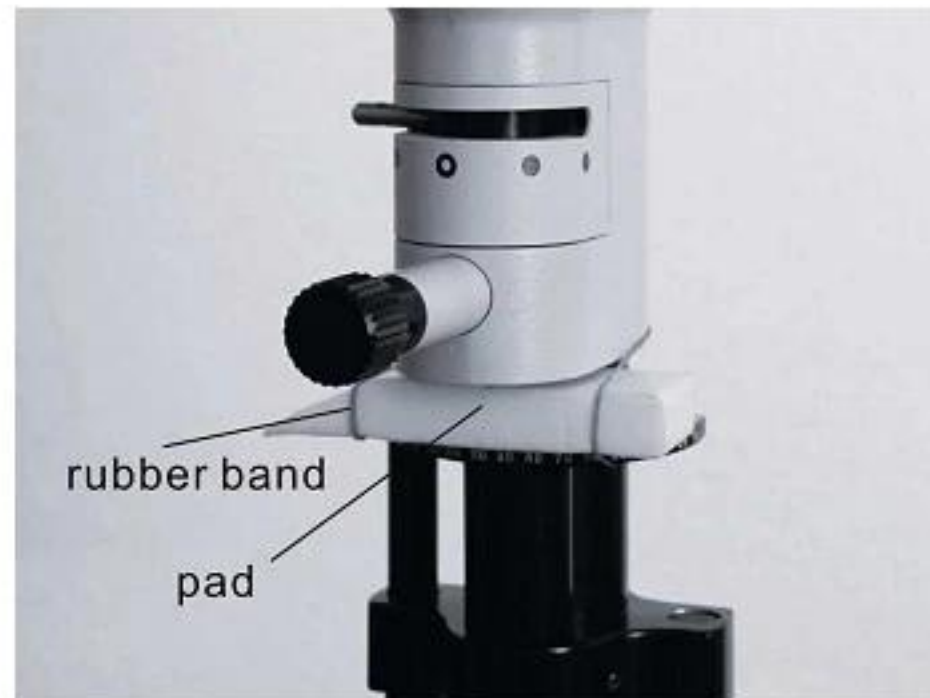

Fig.12
- ✧ Remove the rubber band and gently pull the pad out (Fig.12).